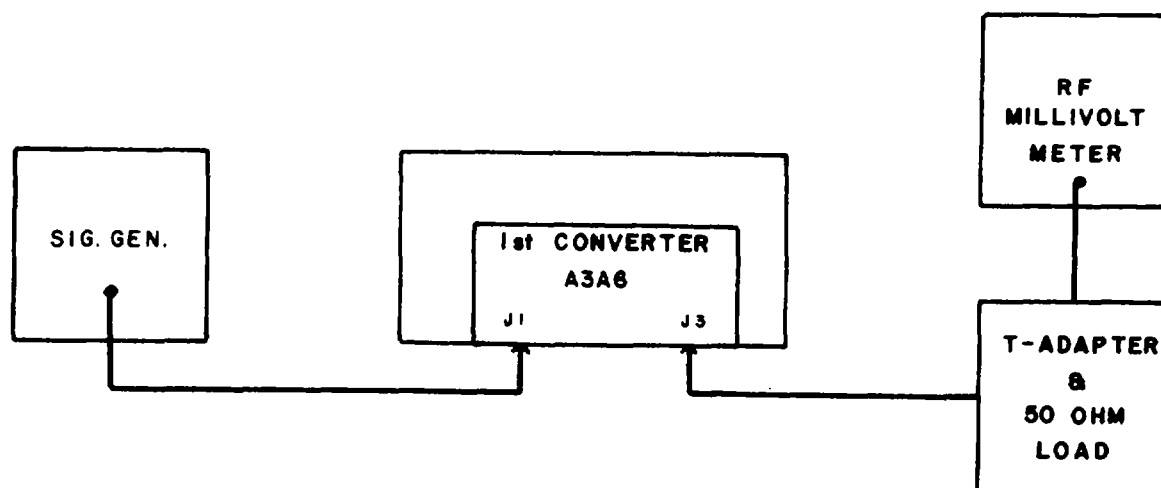

Figure 4-7. Converter Performance Test, Equipment Connections
1. Connect the test equipment as illustrated in **Figure 4-7**.